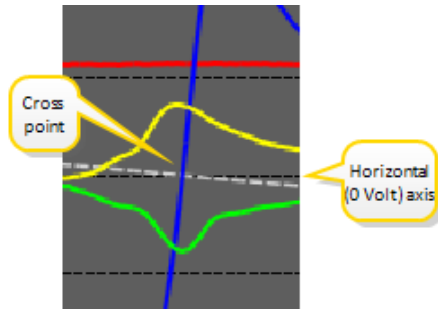

Figure 3-16 Dotted and blue line cross near horizontal axis
18. Turn the adjustment hand screw until both the gray dotted **and** the blue line cross the horizontal (0V) axis at the same point, see **Figure 3-16 below**.